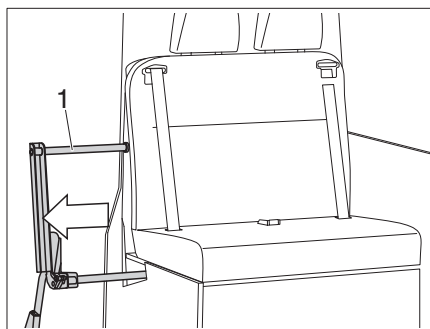
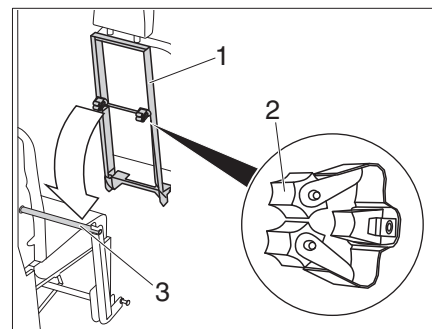
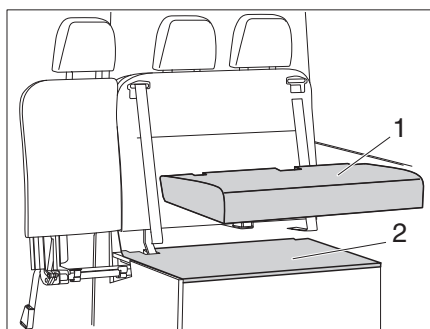

Fig. 38 Pulling out the seat extension
Fig. 39 Hook in backrest
Fig. 40 Remove the seat cushion
- Pull the seat extension (Fig. 38,1) out of the two-person seat.
- Hook the backrest (Fig. 39,1) with the two clips (Fig. 39,2) into the seat widening (Fig. 38,3).
- Remove the seat cushion (Fig. 40,1) and the chest cover (Fig. 38,2).